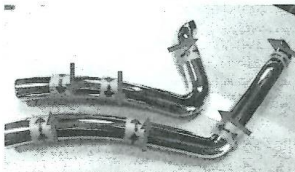

Figure 2.17 Mark center of shield clip with an arrow as shown.
14. Install heat shields. For these steps it is imperative to use caution, space is very tight and scratches may occur. We recommend to use painters tape, cut a piece and tape it to heat shield where the clips are located (these are the clips inside the heat shield) now mark the center of the clip with a pen or marker. Slide the rear shield. **NOTE:** The arrows marked on the picture indicate the direction where the head of the screw must be in order to tight them once the system is installed (See figure 2.17)